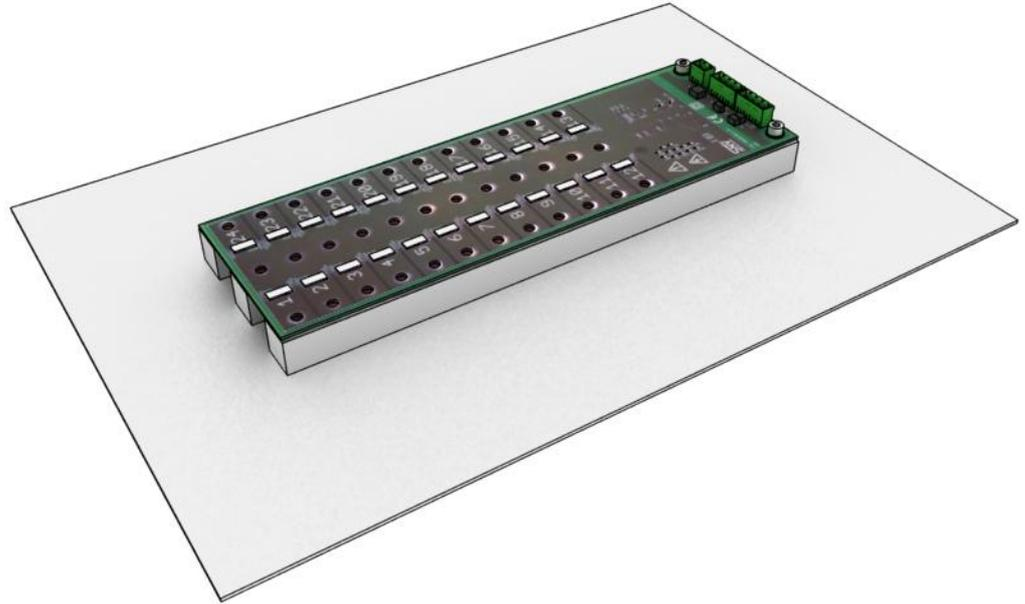

Figure 7: Placing the card on the mounting bars
2. Place the card on the fixing bars as shown in figure 7. Mount the card on the plug connectors side using M5x10 (DIN912 or DIN933) bolts.